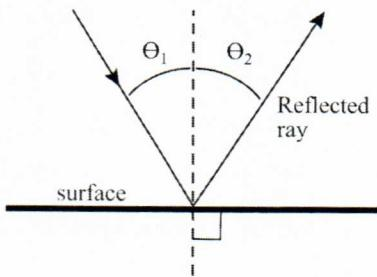

Figure 8.1 The law of reflection. θ_1 is the incident ray. The dashed line is perpendicular to the surface.
8.3.1 When a ray interacts with a mirror, the law of reflection states that the angle of the incident ray is equal to that of the reflected ray as in figure 8.1. The mirror is at the plane of incidence. The angle of the incident ray is defined to be between the ray and a line perpendicular to the surface of the mirror where the ray makes contact. The angle of the reflected ray is defined to be between the ray and a line perpendicular to the surface of the mirror where the ray made contact. For all mirrors, the incident angle will be equal to the reflected ray or $\theta_1 = \theta_2$. Eq 8.1